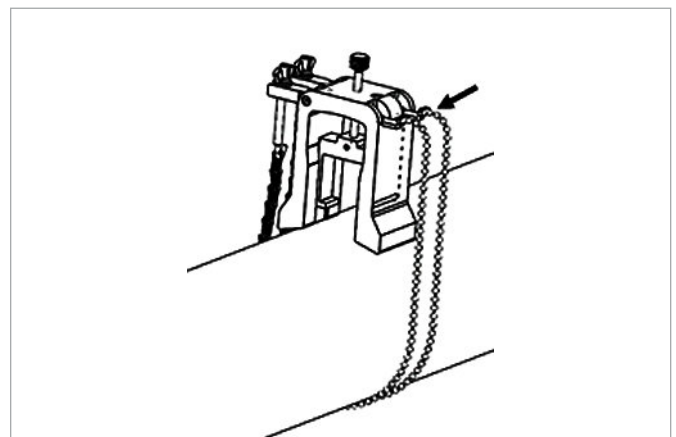

Figure 37: Yoke chains secured
3. Wrap the yoke chains around the pipe and secure them to the yoke bracket, as shown in *Figure 37* below.